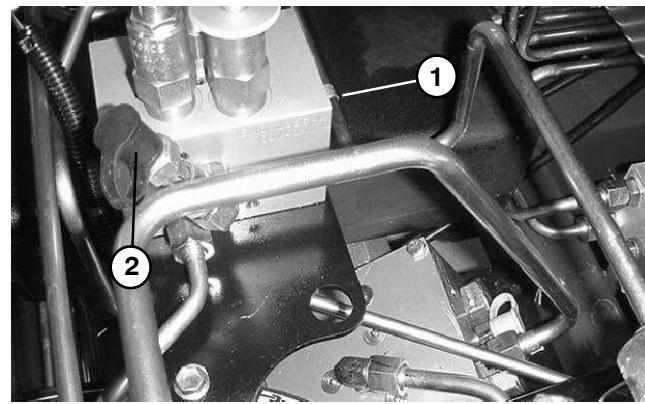

Figure 51
3. Connect a 1000 PSI gauge to counterbalance test port on power down and traction assist manifold under operator's seat (Fig. 51). Also, connect a 5000 PSI gauge to forward traction port on traction circuit hydraulic tube (Fig. 52).